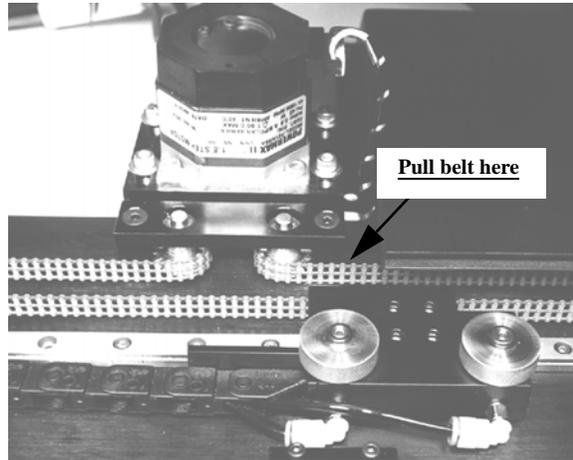

Figure 6-5—Shuttle belt and motor
- 3a) Pull slightly on the center of the shuttle belt to the right of the motor. See *Figure 6-5*.